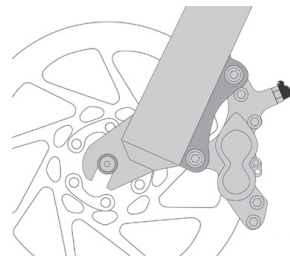
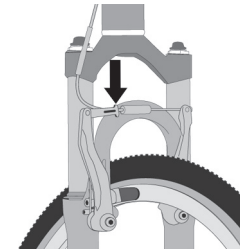

fig. 14
fig. 15
- (1) If your bike has rim brakes, disengage the brake's quick-release mechanism to increase the clearance between the tire and the brake pads (refer to **Page 37, Section 4: "Tech", subsection C: "Brakes", figs. 14 through 18**).
- (2) If your bike has rim brakes, disengage the brake's quick-release mechanism to increase the clearance between the wheel rim and the brake pads (refer to **Page 37, Section 4: "Tech", subsection C: "Brakes", figs. 14 through 18**).
- (3) On a derailleur gear system, pull the derailleur body back with your right hand.
3. Some bicycle brakes, such as disc brakes (fig. 14) and linear-pull brakes (fig. 15), are extremely powerful. Take extra care in becoming familiar with these brakes and exercise particular care when using them.
Most rim brakes have some form of quick-release mechanism to allow the brake pads to clear the tire when a wheel is removed or reinstalled. When the brake quick-release is in the open position, the brakes are inoperative. Ask your authorized retailer to make sure that you understand the way the brake quick-release works on your bike (see figs. 15, 16, 17 & 18) and check each time to make sure both brakes work correctly before you get on the bike.